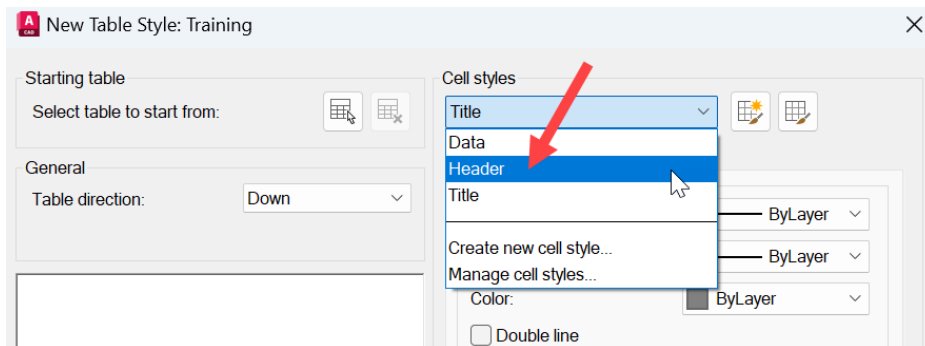

Figure 7.38: The Header cell style in the Cell styles drop-down menu
14. In the **Cell styles** drop-down menu, select **Header**, as shown in *Figure 7.38*.